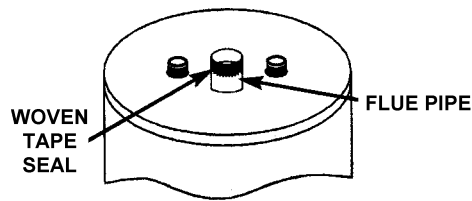

FIGURE 16.
6. Remove the paper backing from the 1 1/2" x 9 3/4" woven tape seal (found attached to the heater top) and apply the seal around the flue collar of the water heater, see Figure 16 on page 12.